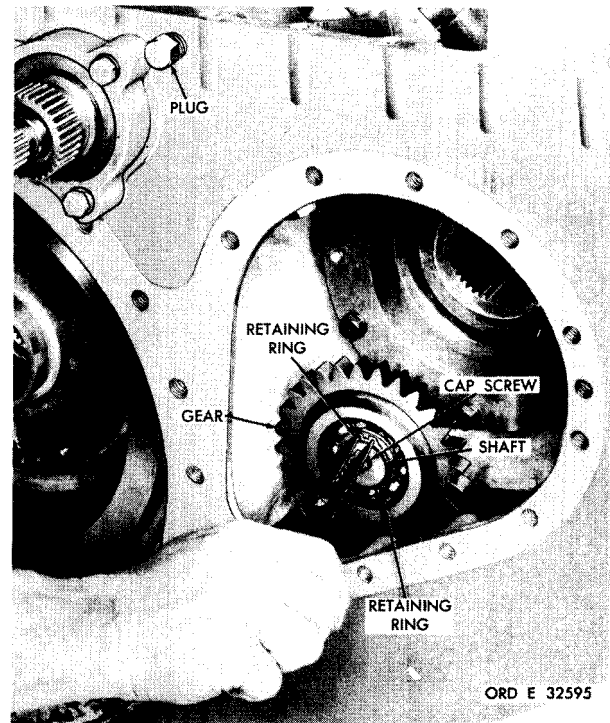

Figure 176. Removing (or installing) snap ring which retains brake collant pump idler gear
e. Remove the retaining ring that retains brake coolant pump idler gear and bearing on the idler gear shaft (fig. 176). Remove gear and bearing.
f. Remove the retaining ring that retains the bearing in the brake coolant idler gear (fig. 176). Remove the bearing from the gear.
g. Using a 9/16-inch wrench, remove the shaft retaining cap screw (fig. 176). Using a slide hammer remover, remove the brake coolant pump idler gear shaft.
h. Using a square 5/16-inch wrench, remove the socket-head plug (fig. 176).